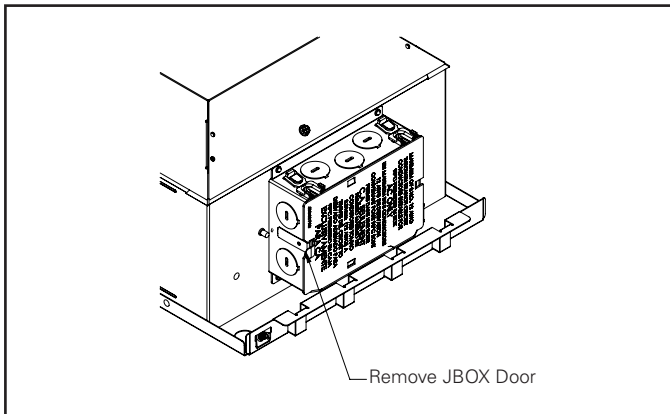

Figure 12.
1. Remove outer JBOX door. Connect supply leads and appropriate dimming/ controls leads as specified in the wiring diagrams and in accordance with your local electrical code(s) or N.E.C. (see Figure 12).
5. See Figure 12 & 13 for visual assistance.